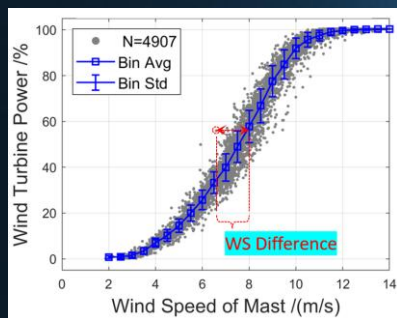

Fig.3 The method for sensitivity analysis
- Step(1): to average scatters to WTPC(the blue line in Fig.3).